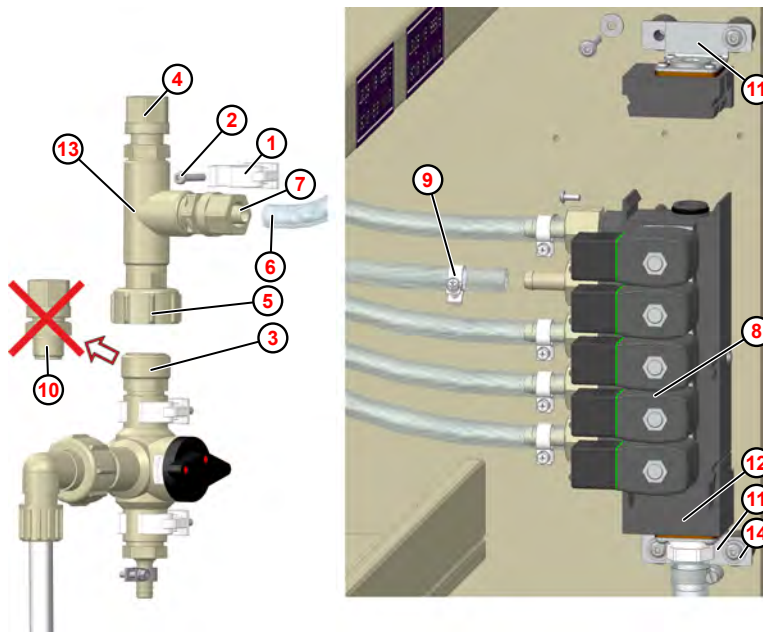

Fig. 12: Assembly water flushing
3. ▶ Loosen the fastening screws on both sides (4 x, Fig. 12 , No. 14) on the fastening brackets (2 x, Fig. 12 , No. 11).
5. ▶ Loosen end piece (Fig. 12 , item 12) and pull off.